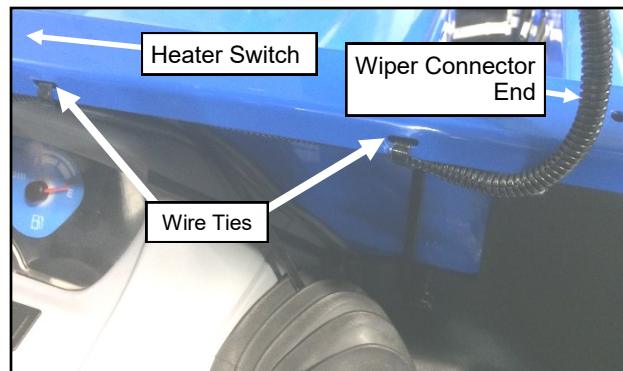

Fig. 10.1 (Attach Main Harness To Cowl)
- 10.1** Attach the main power wire harness to the top of the cowl, about 6" from the end of the windshield wiper motor connector, using supplied zip-ties. The connector end should be outside the cab with the rest of the harness on the inside. See Figure 10.1.